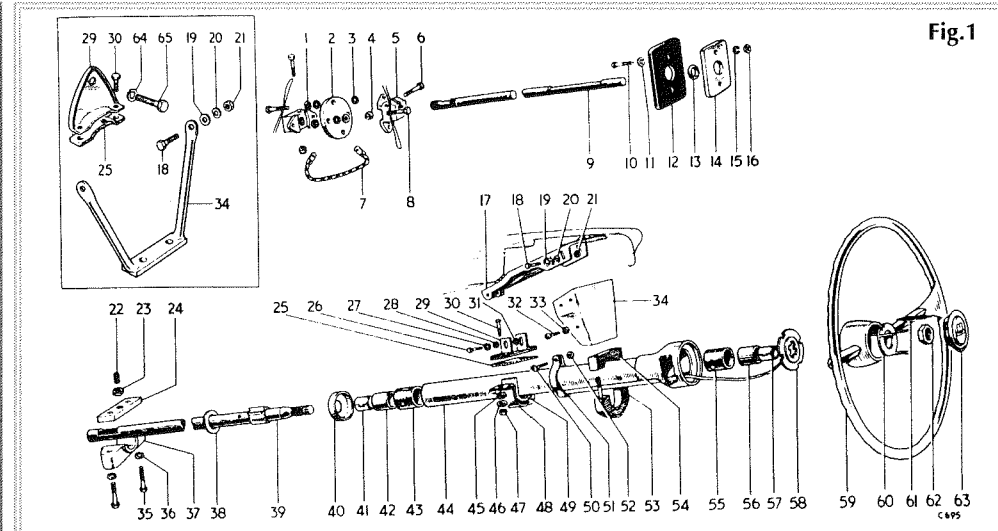

Fig.1
The steering system has two main items to be examined: the steering column and the steering rack. The column components are shown in Fig 1. The checks are quite simple and mainly consist of checking for tightness of all the fixings and joints. If we start at the top, then we have the nut (62) in the centre of the steering wheel (that's not the same as the nut behind the wheel!!!) which can be accessed by prizing off the horn button. No torque is specified for this, so all I can say is that it should be reasonably tight. Next in line are the clamps securing the outer
column to the facia (48 and 53/4 in Figure 1). These only need to be tightened to a light torque of around 8 lb.ft. Next in line is the safety clamp holding the upper and lower inner columns together (24 & 37). If this appears loose, the correct technique is to